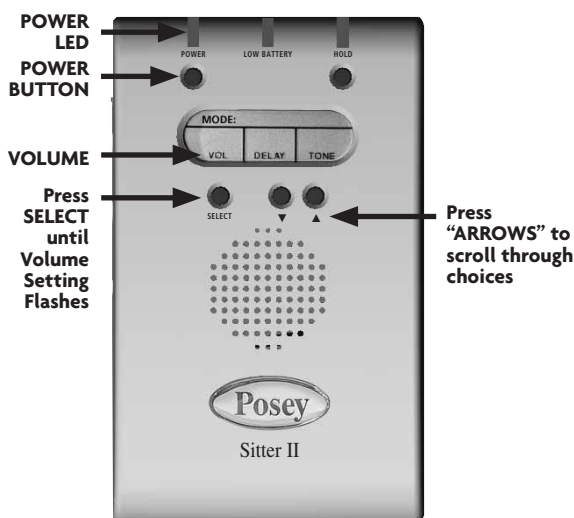

Fig. 5
1. Ensure the alarm is powered on and the sensor is attached to the alarm. The alarm should be in active monitoring mode (green LED light flashes above the POWER button, fig. 5). Place pressure on the sensor pad, connect the chair belt sensor or make sure the PIR sensor is activated.
2. Press the SELECT button until the volume level blinks (fig. 5).
3. Press the arrows to change the volume. There are five (5) volume settings to choose from.